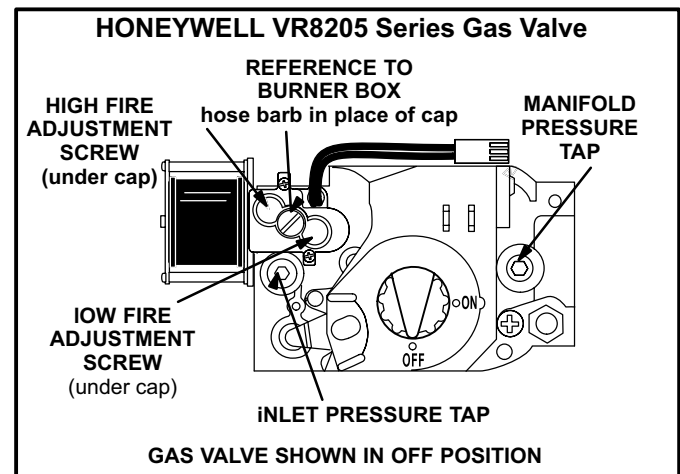

FIGURE 35
#### Gas Valve Operation (Figures 35 and 36)
- 6 - *Honeywell VR8205 Gas Valve* - Turn knob on gas valve clockwise  to **OFF**. Do not force. See figure 35.